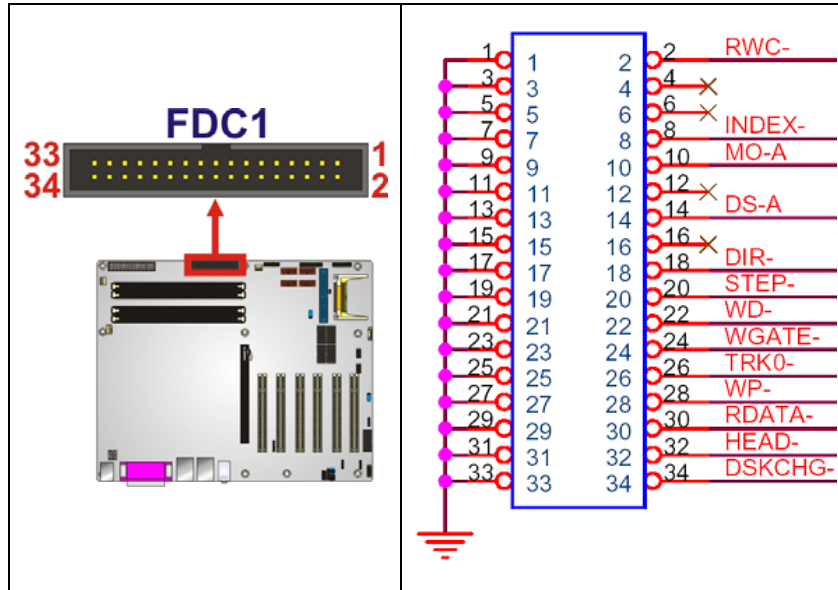

Figure 4-10: FDC Connector Location
- CN Location:** See Figure 4-10